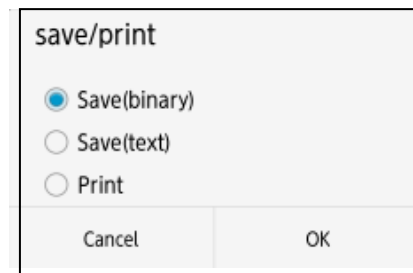

Figure 4-58 File/Print setup screen
- (1) Tap [**Save/Print**] menu. Then the file/print setup screen (Figure 4-58) appears. The mark ● shows the current setting.
- (2) Tap a desired setting, and confirm the mark ● is moved to the selected setting.
- (3) Tap [**OK**] to return to the file operation screen. To cancel the setting change, tap [**CANCEL**], then the screen returns to the file operation screen without setting change.
- (4) Tap [**Return to the main window**] to return to the main screen.